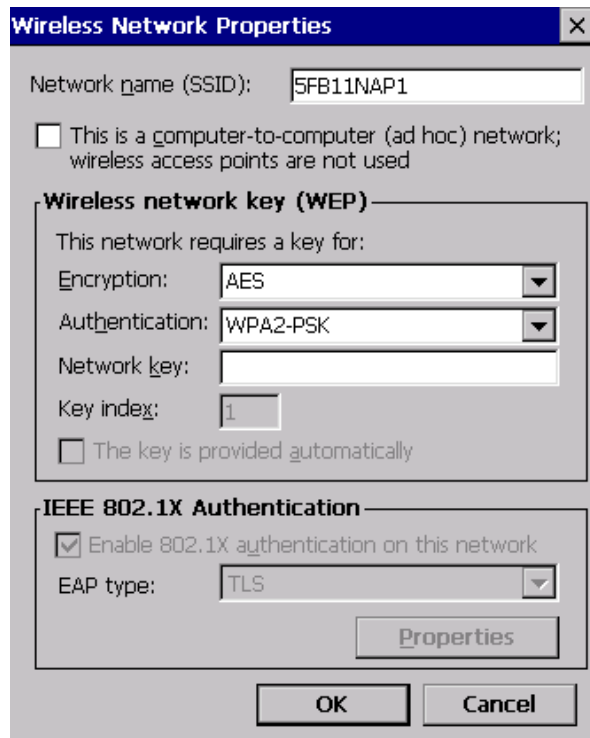

Figure 4-14: Wireless Network Properties
Step 3: The Wireless Network Properties screen appears next. (Figure 4-14).